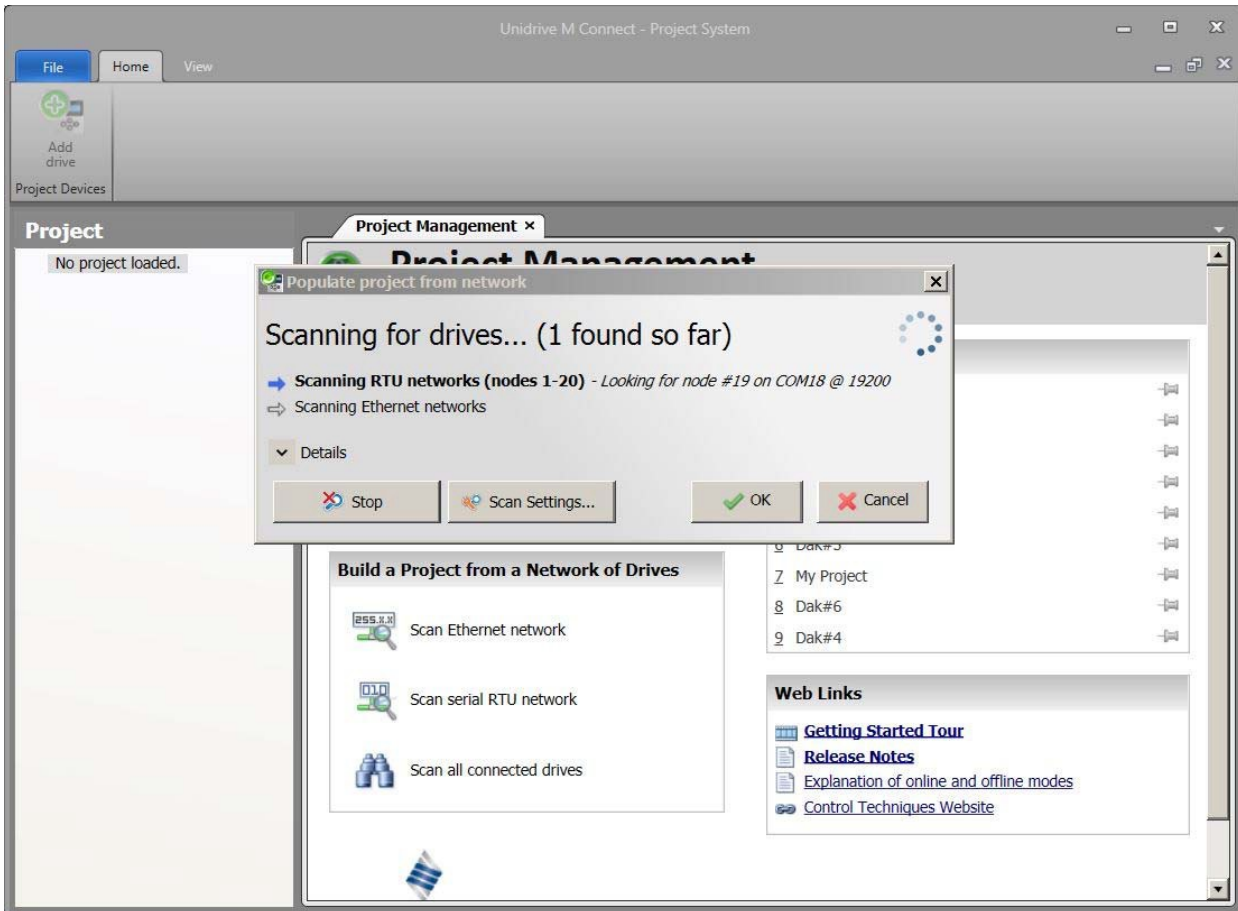

Figure 16
5. During the scan for on-line drives on the network a dialog-box similar to the image in Figure 16 will be displayed.